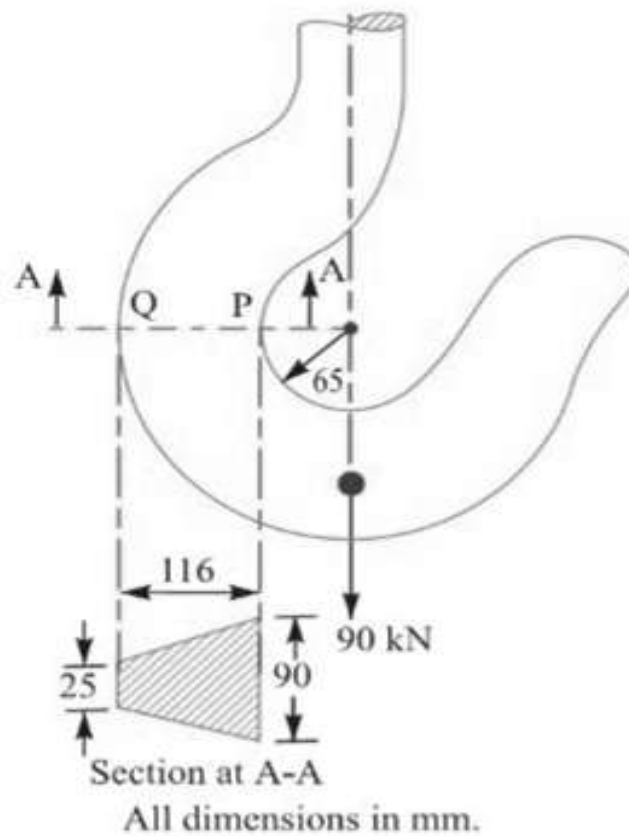

Figure 3
5. A crane hook has a trapezoidal section at A-A as shown in Figure 3. Plot the distribution of stresses across the section A-A.